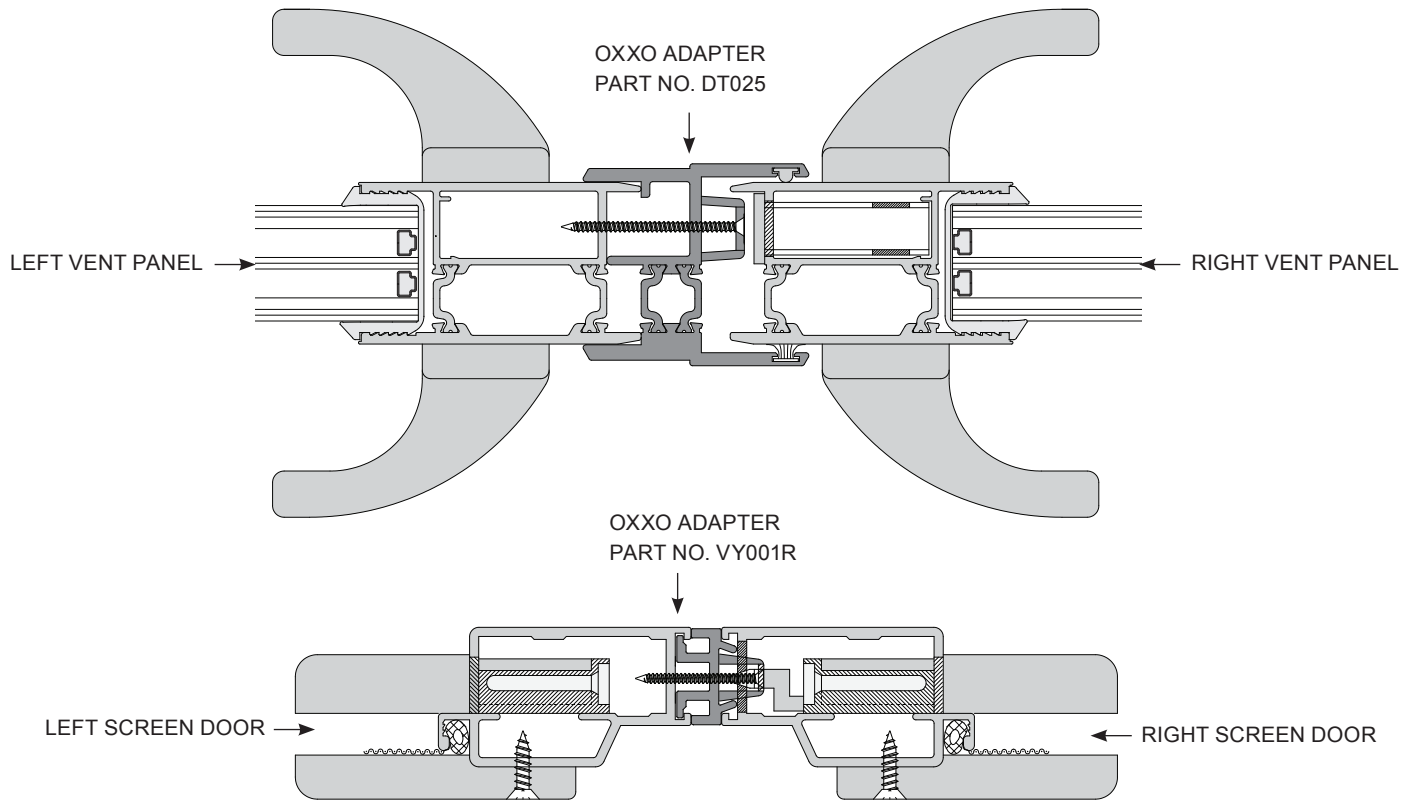

FIG. 54
3. Install DT025 OXXO Adapter (FIG. 54 on page 24) to the inactive vent panel. Dry fit the adapter on the panel first. Close both panels and check the spacing and alignment. (FIG. 42) Maintain an equal gap at the top and bottom. (FIG. 43)
8. Install screen door. Refer to FIG. 54 on page 24 for screen adapter.
9. Position lock strike so screen catch moves freely and secure with (2) Part No. MS13042 #8-32 x 1/2" Phil hex washer HD MS fasteners.